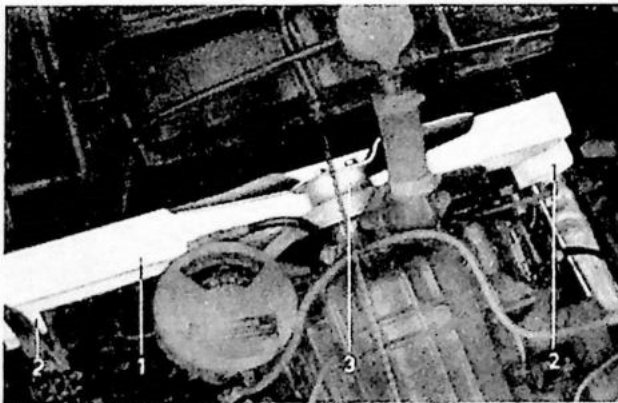

Fig. 5. Engine support.
7. Screw off nuts at the front engine suspension. Remove the front engine guard plate. Place a wooden block (1, fig. 5) ( $62 \times 6 \times 6$  cm =  $24.4 \times 2.4 \times 2.4$ " ) above the sills but below the fan hub (3). Insert the wooden block from below. Two extra blocks (2) (size  $4 \times 6 \times 6$  cm =  $1.6 \times 2.4 \times 2.4$ " ) should be placed between the wooden block mentioned above and the side members on the PV 445. A small overhead hoist can of course also be used to support the engine.